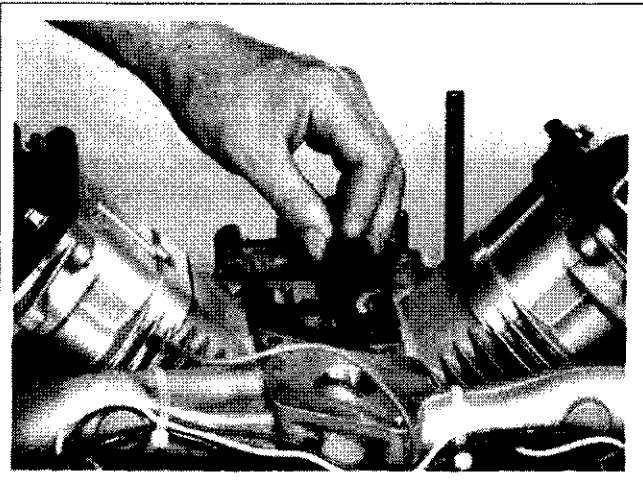

Figure 9-35. Removing Breather Filter.
6. Remove the breather filter from housing. See Figure 9-35.